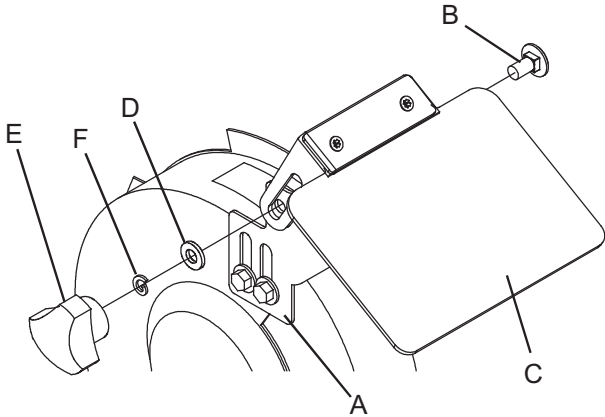

Figure 6 - Eyeshields
Refer to Figure 6
1. Assemble the eyeshield (C) to the Spark Arrestor (A) inserting carriage head screw (B) through Eyeshield and the Spark Arrestor as shown. See Figure 6.
2. Assemble the flat washer (D), lockwasher (F) and Lock Knob (E) to the carriage head screw (B) and tighten until the Eyeshield remains in the desired position. See Figure 6.